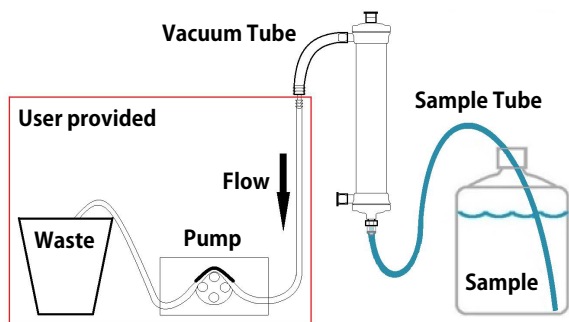

Figure 3
3. CONNECT TO VACUUM SOURCE (figure 3)
4. COLLECT SAMPLE (figure 3)